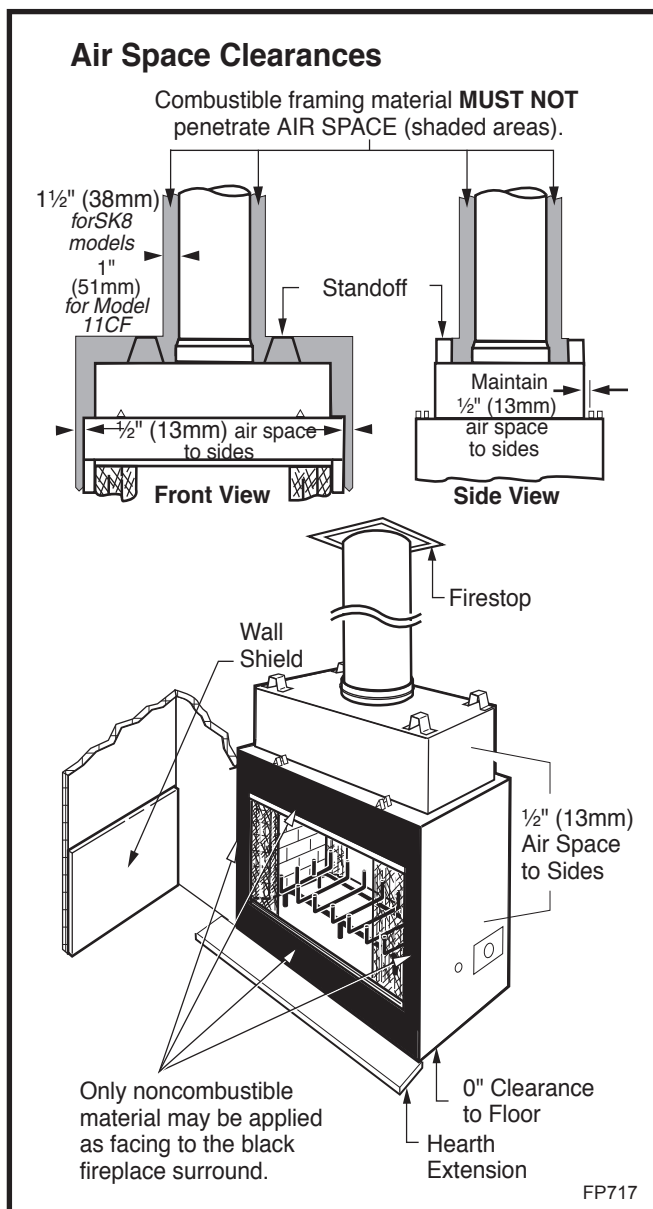

Fig. 20 Minimum clearances to combustibles.
There must be an air space (1½" (38mm) with SK8 and 1" (25mm) with 11CF) between outermost portion of chimney sections and any adjacent combustible surfaces. (Fig. 20) (Combustible surfaces include burnable materials such as: ceiling members, joists, flooring, combustible insulation and roof structures.)
CAUTION: All joints between the finished wall and the fireplace surround (top/sides) must be sealed with non-combustible material to prevent cold air leakage into the room. Only noncombustible material may be applied to the facing of the fireplace surround. (Black painted area) (Fig. 20)
NOTE: No side wall protection is required for fireplaces installed at 45° to two (2) side walls (corner installation). Adjacent combustible side walls that are within 16" (406mm) (STR33/36 and CVR36) and 20" (508mm) (STR42 and CVR42) of fireplace opening must be protected with CFM Corporation Wall Shield Model SP40 or a specifically built wall shield described in Figure 20 & 24.
All joints (top, bottom and sides) where wall or decorative facing material meets fireplace surround must be completely sealed with a noncombustible material. (Figs. 20 and 24)
The special wall shield design described in Figure 20 is an alternate method of adding protection to side walls and can be used in place of the SP40 with the same wall clearances specified for the SP40. Rt must =1.85 minimum.